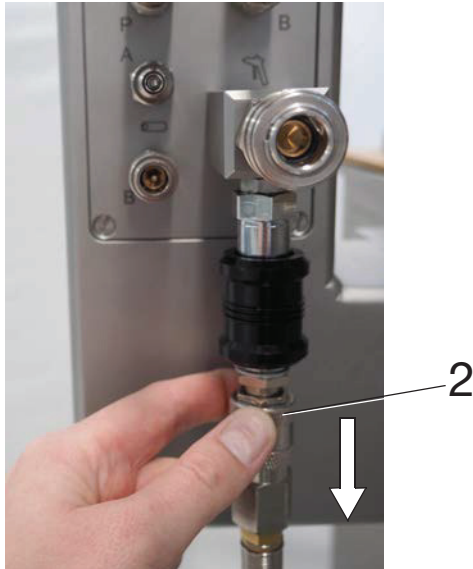

Fig. 1-10 2 Ring on the air release valve
- Push and hold the compressed air hose in the direction of flow while pushing the ring on the air release valve (2, Fig. 1-10) against the direction of flow and remove the hose.